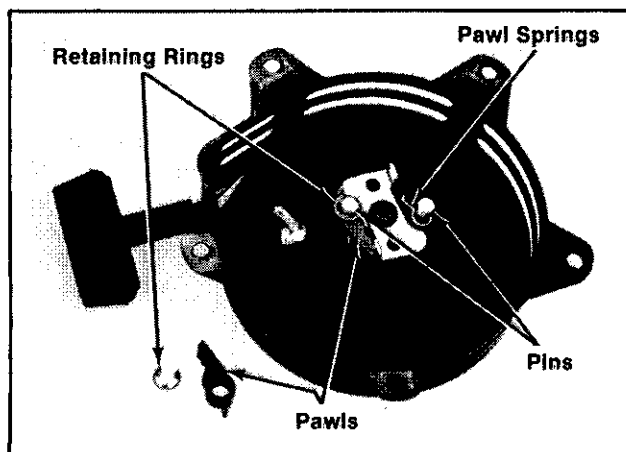

Figure 7-3. Starter Pawls.
2. Carefully note the position of the pawls, pawl springs, and retaining rings before disassembly. (Components must be assembled correctly for proper operation.) Refer to Figure 7-3.